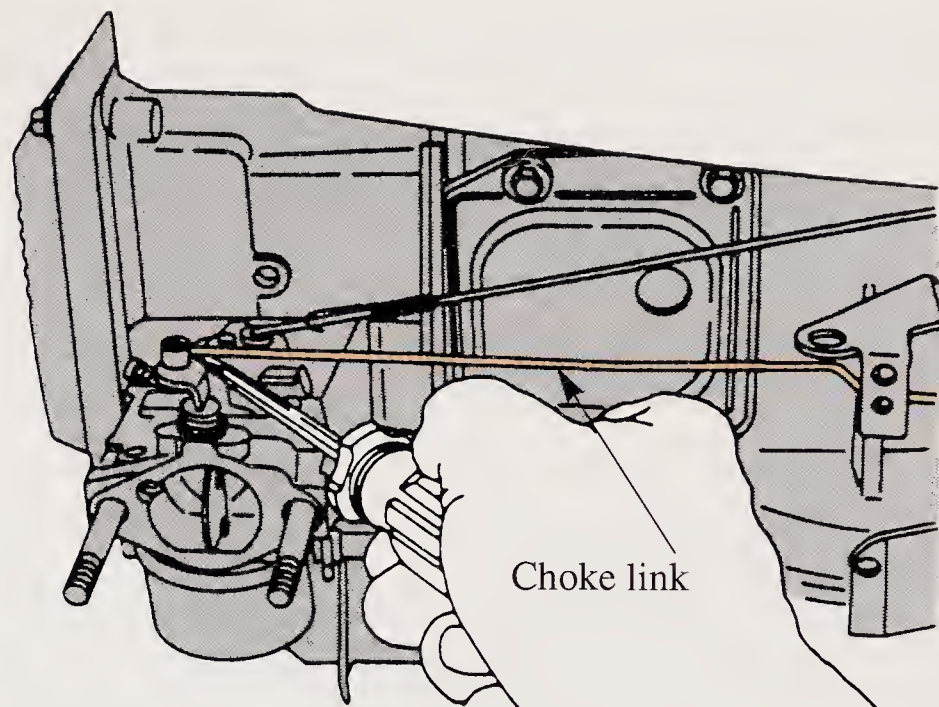

Figure 13-9. Choke linkage can be removed from the choke lever by prying it with a screwdriver. (Briggs and Stratton Corp.)
8. Remove choke linkage from choke lever. See **Figure 13-9**.